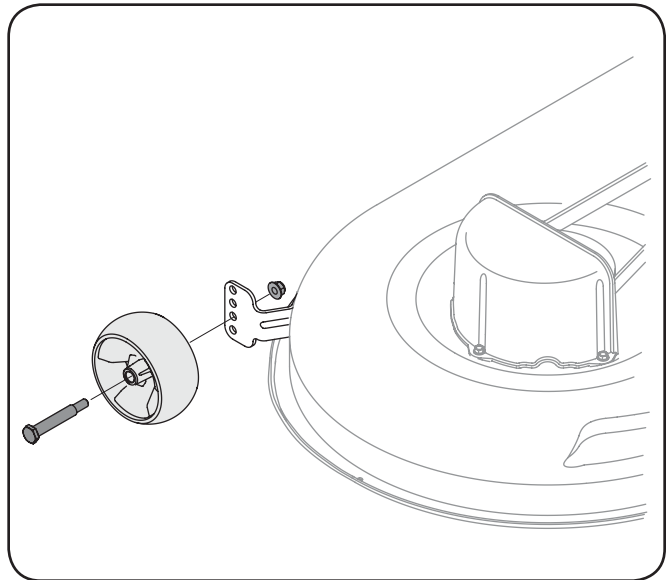

Figure 3-7
- b. Remove the front and rear gauge wheels by removing the lock nuts and shoulder screws which secure them to the deck. See Fig. 3-7.